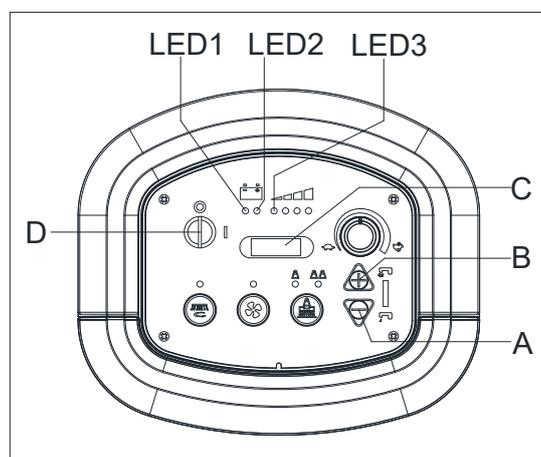

Figure 4.2
1. Press both the buttons (A, Figure. 4.2) and (B) at the same time, Insert the ignition key (D) and turn on the power, after 0.5 second, enter battery setting mode. LED display during setting (C), Release the buttons.
2. The mode can be shift from 0 to 5 by pressing button (B), or shift from 5 to 0 by pressing button (A). After the battery mode setting is completed, turn off the power (D) and the new setting of battery mode can be saved automatically.